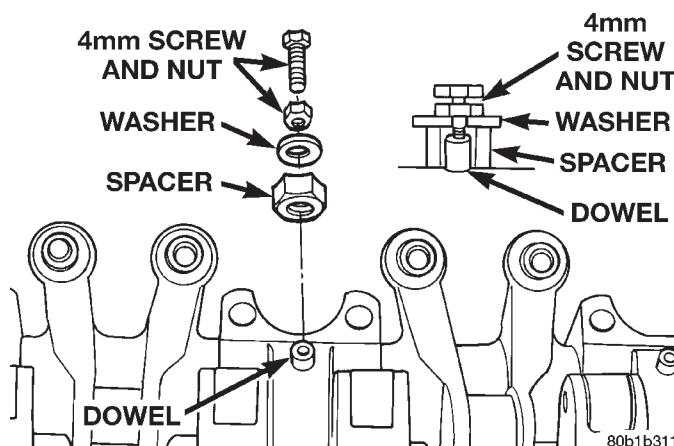

Fig. 105 Rocker Arms and Shaft—Disassembly
(1) Remove dowel pin using a 4 mm screw, nut, spacer, and washer installed into the pin (Fig. 105). Thread the screw into the pin, then loosen the nut on the screw. This will pull the dowel out of the shaft support. Do not reuse dowel pins. Remove the rocker arms and pedestals in order.